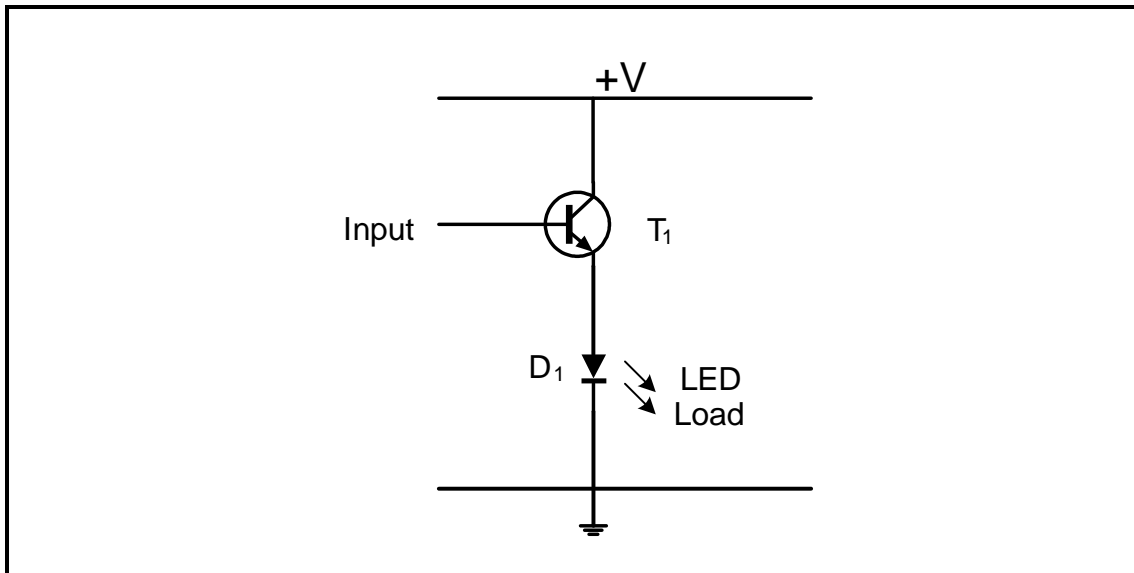

FIGURE 4.2
- 4.2 Identify the circuit in FIGURE 4.2 below with reference to digital outputs.